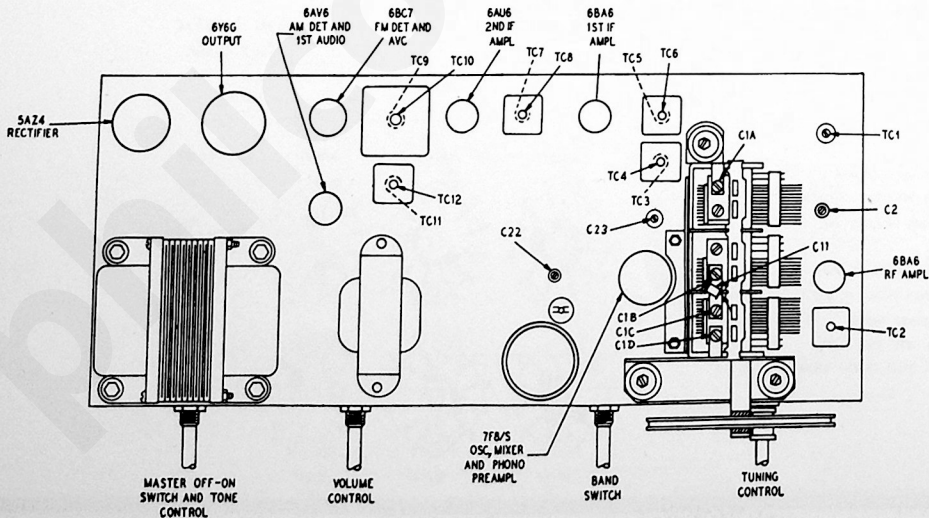

Figure 5. Top View, Showing Trimmer Locations
**DIAL POINTER:** Calibration and pointer-index measurements are shown in figure 5. With tuning gang fully meshed, set pointer to index mark.